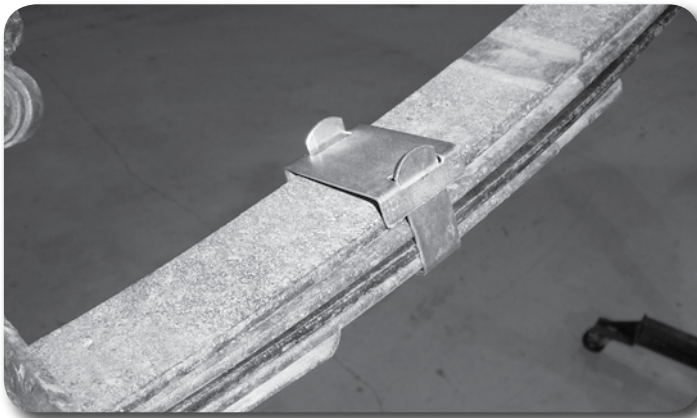

Figure 5
10. Remove the C-clamps from the leaf pack and ensure the individual leafs are all inline with each other. Install the provided bend-over style clamps on the leaf pack (Figure 5). Install one clamp on each side of the center pin about 12" from the center pin. Bend the ends of the clamps over to secure them to the spring.